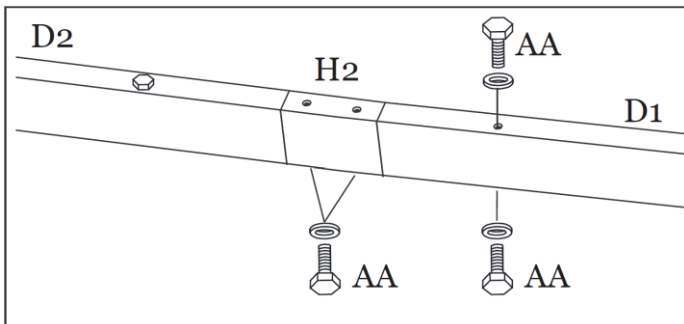

Figure 2-3
Step 2C: Attach the Lintel Cover (H2) and the Short Lintels (D1 and D2) using Bolts/Washers (AA). See Figure 2-3.